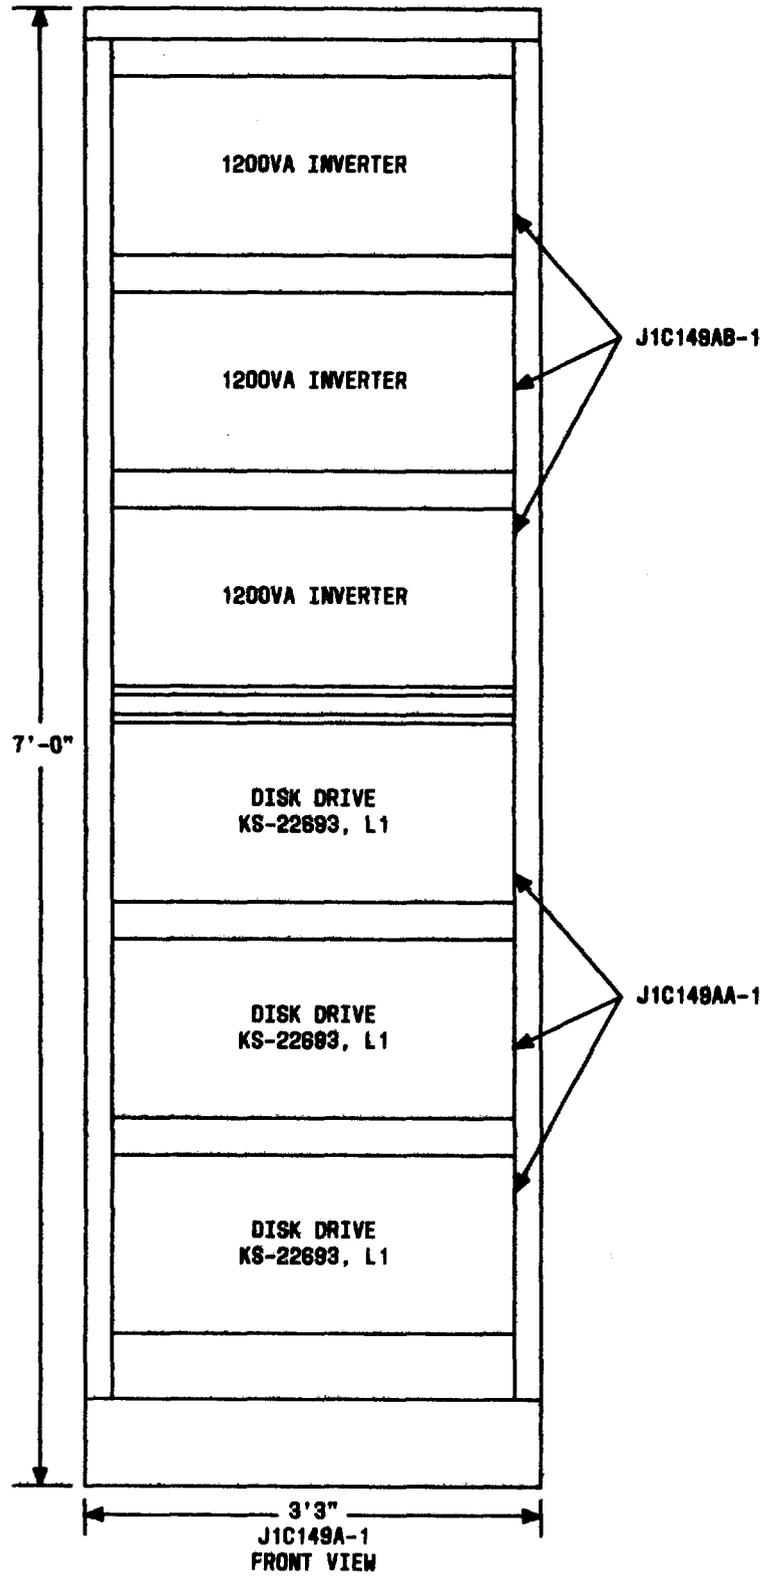

Fig. 1—Mini-Module Disk Frame
2.01 The disk drives are located in the mini-module disk frame (J1C149A-1). Additionally, the 1200VA inverters, J1C149AB-1, are located in the mini-module disk frame. The mini-module disk frame is a single-bay frame that is 7 feet high and 3 feet 3 inches wide (Fig. 1).